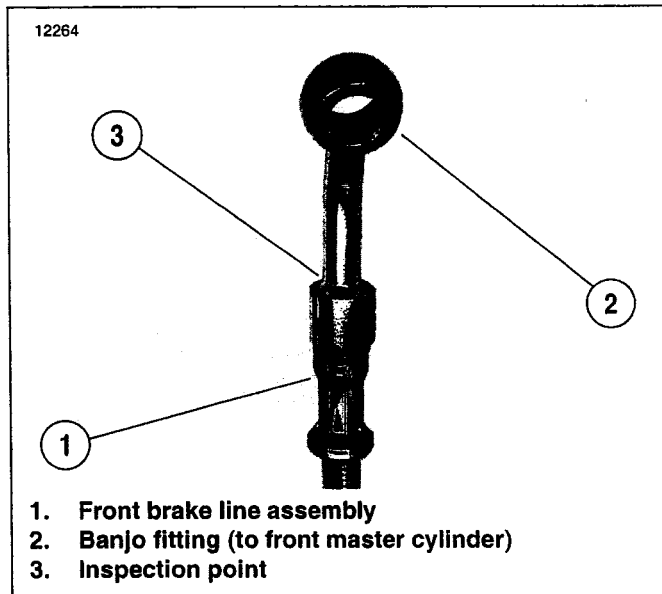
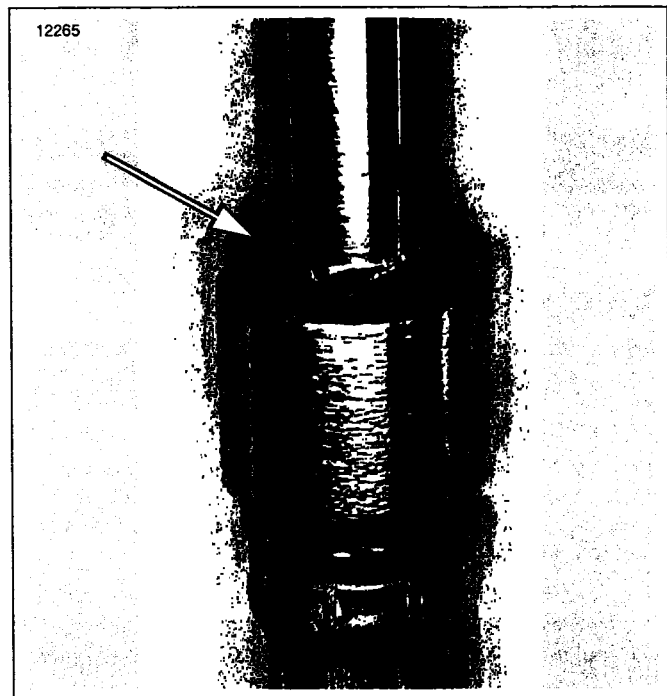
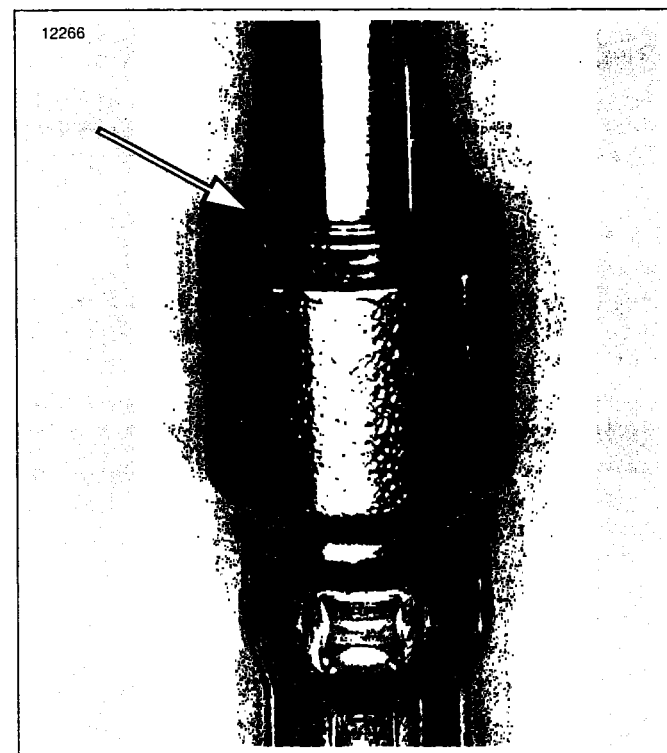

Figure 1. Identifying Mis-manufactured Front Brake Line Assembly
Figure 2. Soldered Joint
Figure 3. Unsoldered Joint
See Figure 1. Examine front brake line (1) near front brake master cylinder banjo fitting (2) to determine if it has been correctly manufactured. Inspect point (3) where metal line joins hose fitting. If assembly has soldered joint (see Figure 2.), no further action is required. If assembly has unsoldered joint (see Figure 3.), replace front brake line assembly as described in instructions which follow.